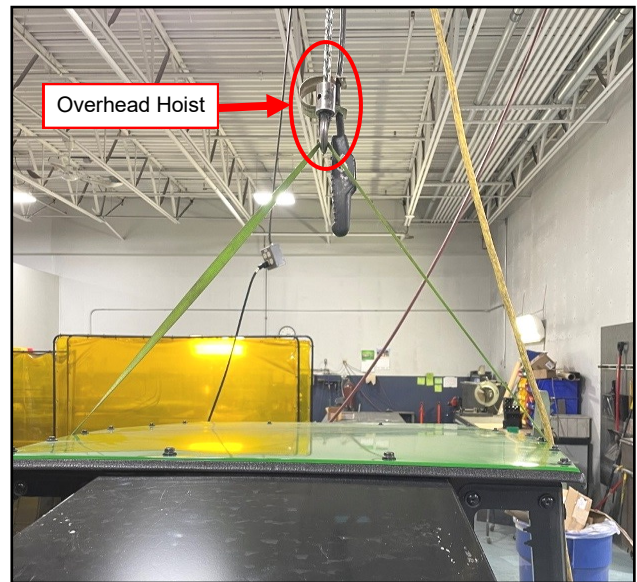

Fig. 2.4a (Tension Lifting Strap)
- 2.4 Put tension on the lifting strap with the overhead hoist. Remove and discard the (4) bolts holding the rear of the cab down to the rear shipping bracket (located inside the cab) as well as the (4) bolts holding the floorboards to the front shipping brackets. See Figures 2.4a, b, and c.